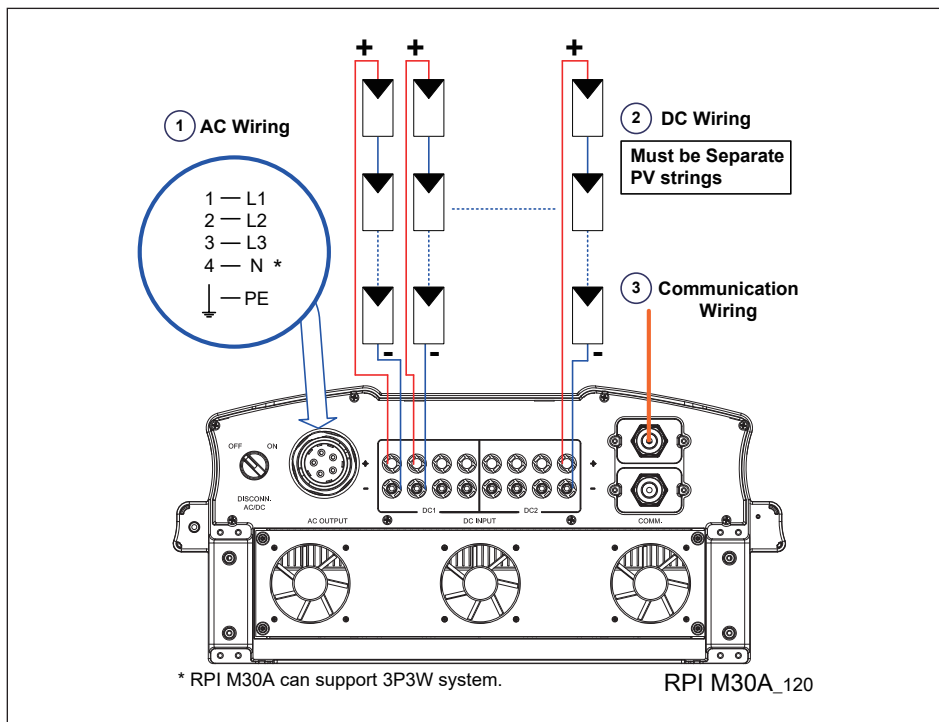
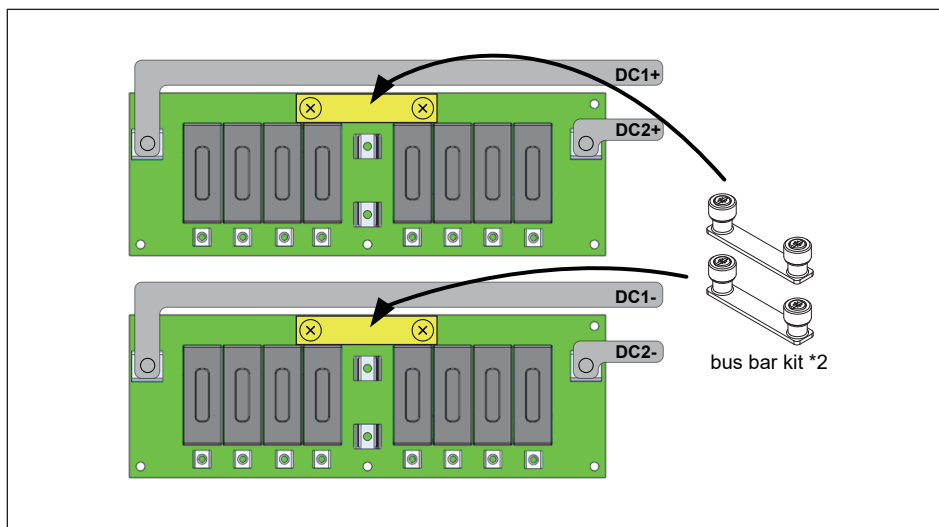

Figure 4-1 : Floating string with separate connection
Figure 4-2 : Force M30A_120 operate in parallel mode
- For model with fuses, PV arrays can connect to the inverter directly, but parallel connection at external DC distribution box is not recommended due to the limits of DC fuse. Please refer to **Figure 4-1** for the detail wiring illustrations.
- If you want inverter working at parallel input mode (only 1 MPPT), please install 2 bus bar kits in the inverter as shown in **Figure 4-2**. The outer wiring at DC side is same as **Figure 4-1**.